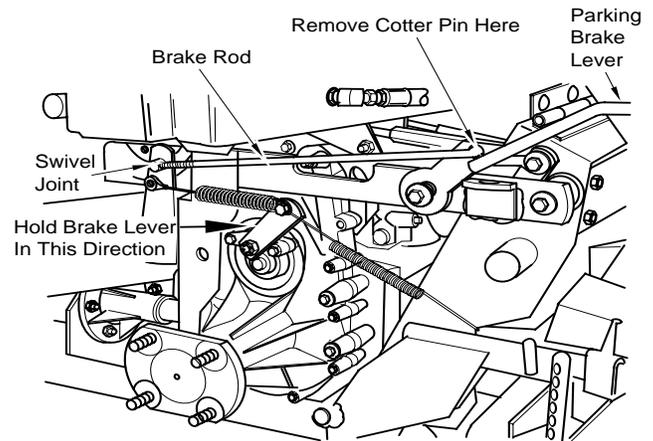

Figure 6-2 Adjusting Right Brake Linkage
2. Release the parking brake lever and rest it against the stop on the frame (Figure 6-2).
- A. Remove the cotter pin securing the swivel joint to the brake linkage arm (Figure 6-2).